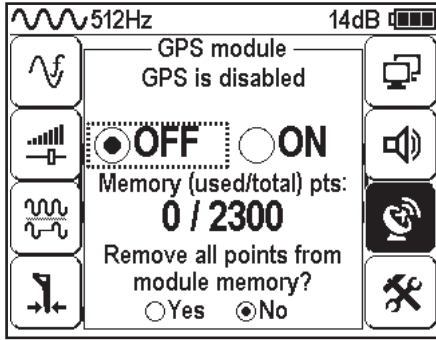

Fig.1
2. If a response from the module is received, the receiver requests the number of available GPS points in module's memory and shows this information on the screen (see fig 1)